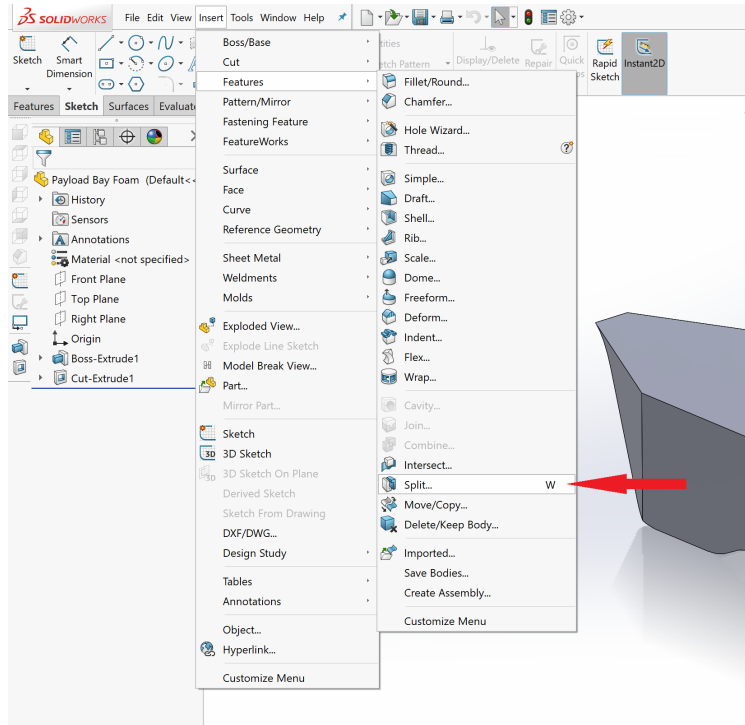

Figure 1.22: SolidWorks Split Command
- The projection of the side profile can be obtained by slicing the part vertically in the center: go to “Insert → Features → Split” as shown in fig 1.22 below: